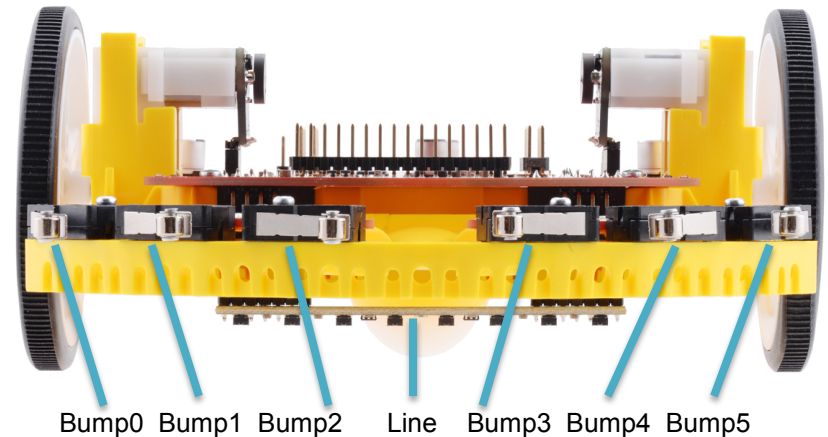
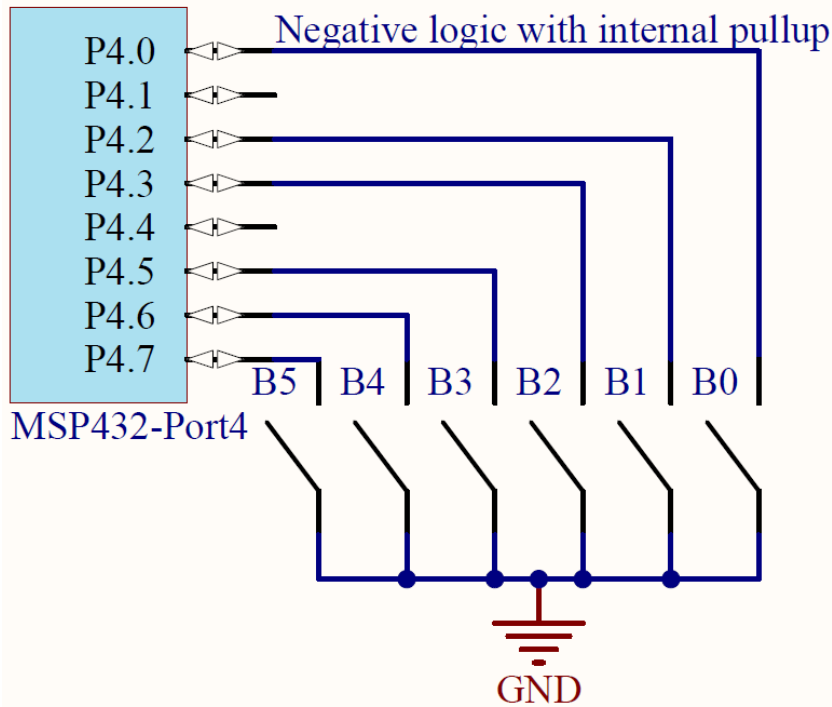

Figure 3. Bump sensors attached to the front of the robot (www.pololu.com).
Figure 4. The interface circuit used in RSLK kit. If you are not using the kit remember that only Ports 1 – 6 can trigger interrupts.
You interfaced the QTR line sensor and bump sensors back in Lab 5. Figure 3 shows one possible placement for six sensors. Figure 4 shows a simple electrical circuit for interfacing the switches.
If you didn't interface the bump sensors as part of Lab 5, interface the bump sensors to the robot as shown in Figure 4. The motors were interfaced in Labs 5, 12, and 13.
- Check the wiring as described in Figure 3. Figure 3 shows negative logic and internal pull-up resistors. Because there are no external resistors, you do need to configure the internal resistors in software.